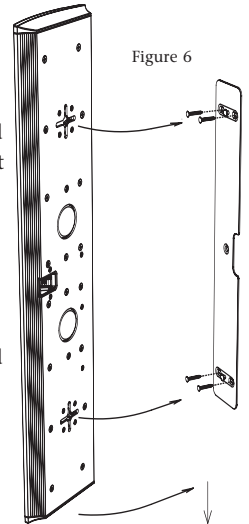

Figure 6
- Line up the speaker so that the mounting heads enter the center part of the + shaped channels; slide the speaker down so that the mounting heads hold the speaker in place. [Figure 6]